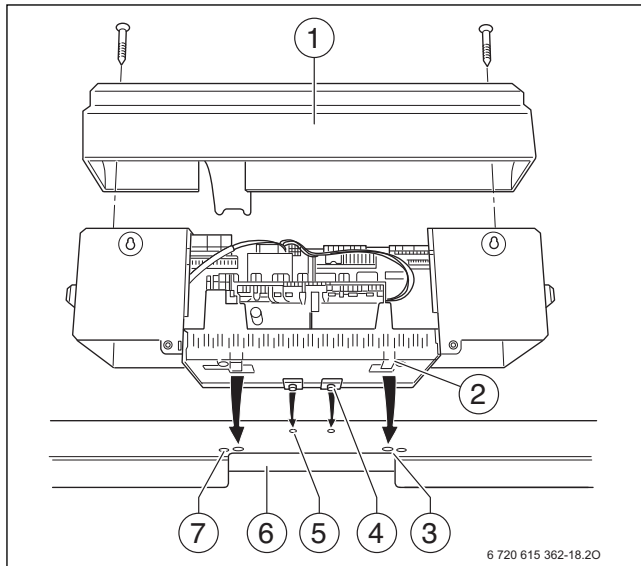
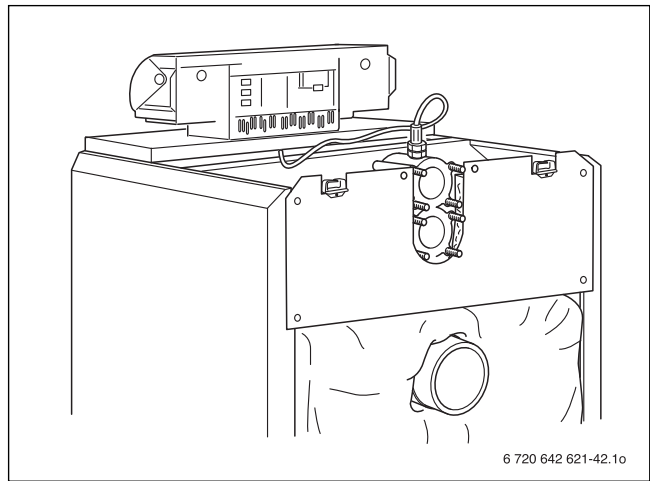

Fig. 46 Installing the control panel
Fig. 51 Boiler control panel installed
Fig. 46 shows the control panel and the front top cover from behind.
- ▶ Undo both screws in the terminal cover (Fig. 46, [1]). Lift the terminal cover up and off.
- ▶ Put the control panel in place. Fit the control panel at the front by inserting the alignment tabs (Fig. 46, [4]) into the oval holes in the front top boiler cover (Fig. 46, [5]). Pull the control panel forwards and then tip backwards. The flexible hooks (Fig. 46, [2]) must engage with the rectangular cutouts in the rear of the front boiler cover (Fig. 46, [3]).
- ▶ Screw the base of the control panel on the left and right of the cable duct (Fig. 46, [6]) on the front boiler cover using two self-tapping screws (Fig. 46, [7]).
- ▶ Screw terminal cover (Fig. 46, [1]) with the two self-tapping screws back into the control panel base (Fig. 51).